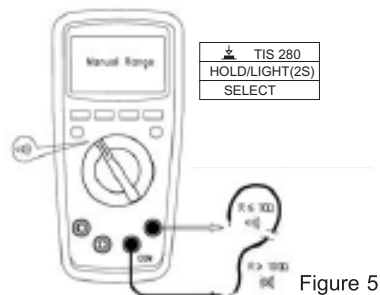

Figure 5
3. Circuit on-off measurement (See Figure 5)